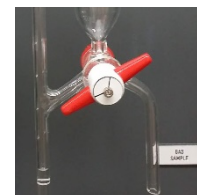

Figure 3 Gas Sample Valve
- Make sure the valves are in the operating positions, shown in Figures 3 and 4. The black lines on the front of the valve indicate the flow path through the valve.